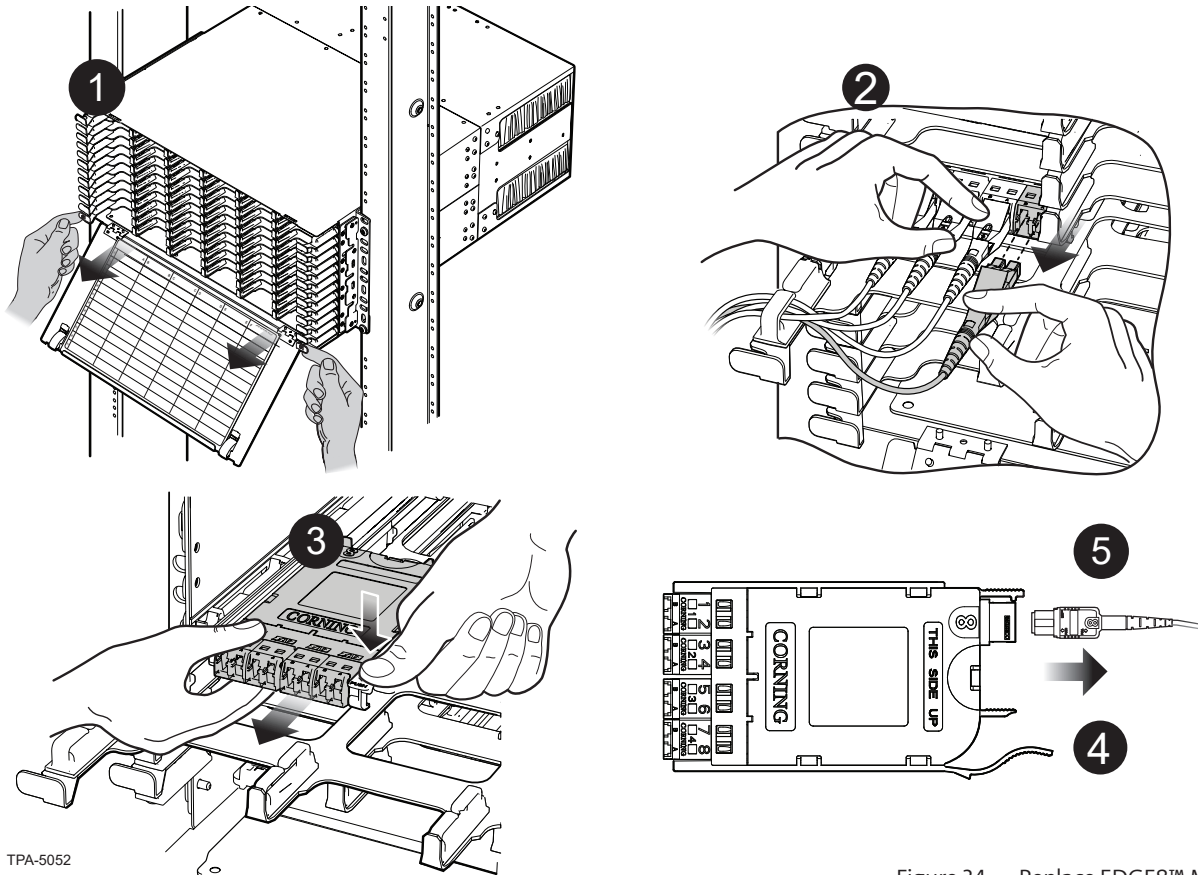

Figure 34 — Replace EDGE8™ Module
Step 2: Press latch on LC connector and pull connector out (Figure 34). If jumper is equipped with MTP® connector, simply grasp connector body and pull connector out of the adapter. (**NOTE:** only LC connectors shown in Figure 34.)